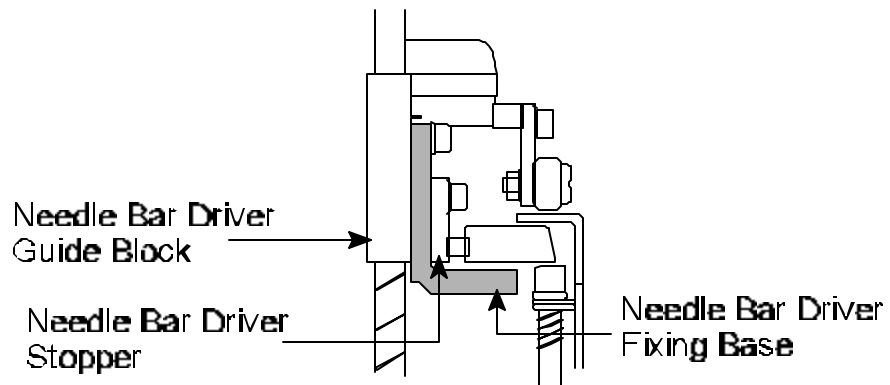

Figure 8
21. **Position** Needle Bar Driver Fixing Base to Needle Bar Driver Guide Block. See Figure 8.